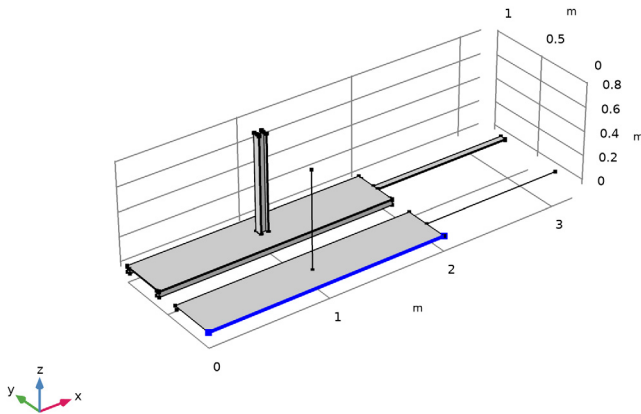
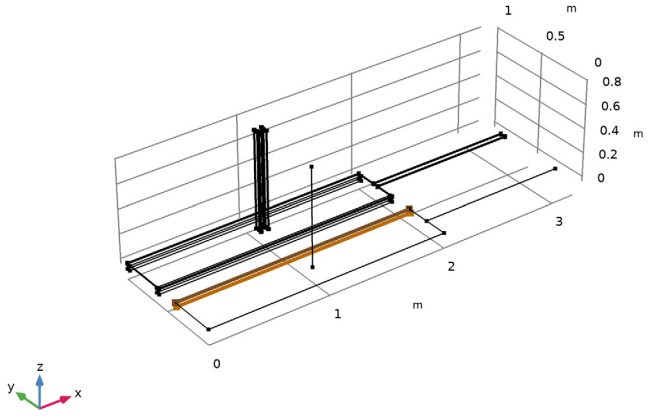

Figure 5: Longitudinal shell-beam connection with common edge
Figure 6: Longitudinal shell-beam connection with separate edge
- The longitudinal stiffening beams are connected to the long edges of the plate. Two different modeling possibilities are used. On one side, there is a separate edge at the center of the beam (Figure 6), whereas on the other side, the edge of the shell is also used for the beam (Figure 5), and the actual location of the beam is specified using the offset property in the settings for **Shell-Beam Connection**.